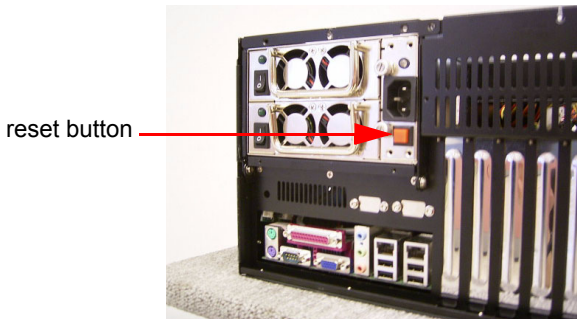

Figure 3.7: Pushing reset button on the power supply
1. Push the reset button on the power supply to stop the alarm (see Figure 3.7).